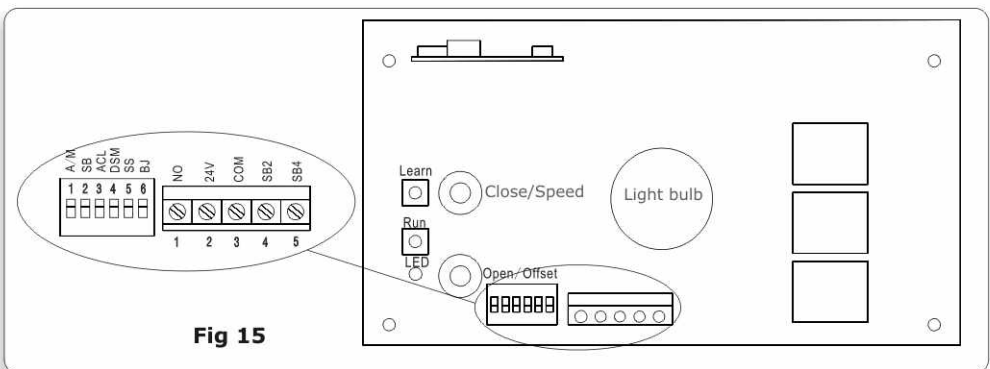

Fig 15
- iii. select Dip switch No.1 to the "OFF" position (Fig.15)
- Select Dip Switch No.6 (BJ) to the "ON" position. (Fig.15)
- Select the Dip Switches as required to enable the desired functionality (Fig.15)
- Select Dip 4 (DBM) to the "ON" position, (Fig.15)